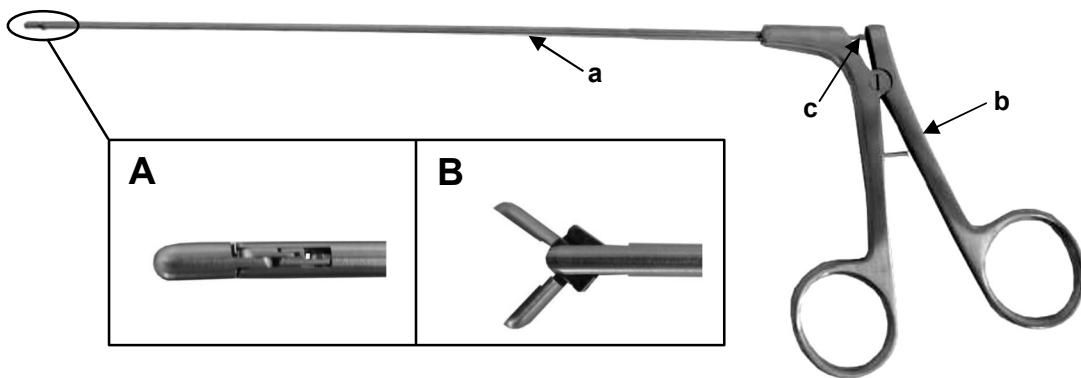

Fig. 1: Osteobioptome with closed (A) and opened (B) jaws.
The osteobioptome consists of a tube shaft (a) with a welded handle (b), at the distal end of which the movable jaws are located. By pressing the handle (b) together or apart, the jaws can be closed or opened via the inner cable (c) running in the tube shaft (a). Figure 1 shows an osteobioptome with closed (A) and opened (B) jaws.